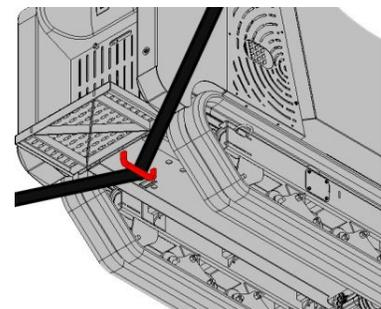

Fig 12
- Secure the machine to the vehicle or trailer tightly using fastening devices and the 6 tie down points. (Fig, 10, 11, and 12) Figure 12 shows tie down location under the rear of machine. Ensure that the machine will not roll or shift on its own.